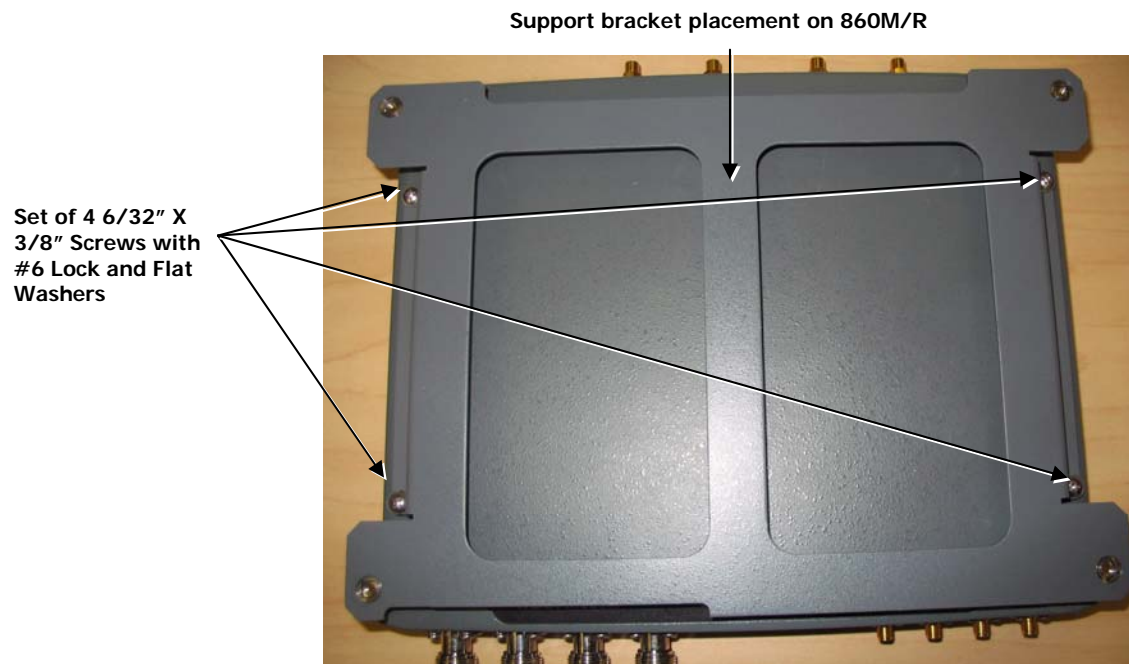

Figure 3-7: BRKT-RHU-800-STK Placement on 860M/R
2. Place the support bracket **BRKT-RHU-800-STK** on top of the 860M/R where the notched side of the bracket is towards the rear of the unit and secure in place with supplied screws as shown in **Figure 3-7: BRKT-RHU-800-STK Placement on 860M/R**